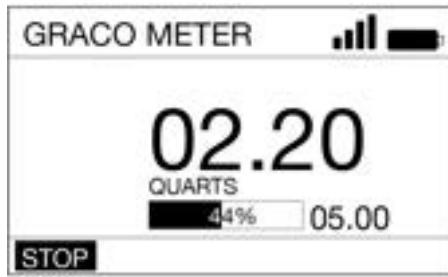

Fig. 34
3. Use the RIGHT or LEFT ARROW to select STOP (J) (FIG. 34). Press the ENTER button.